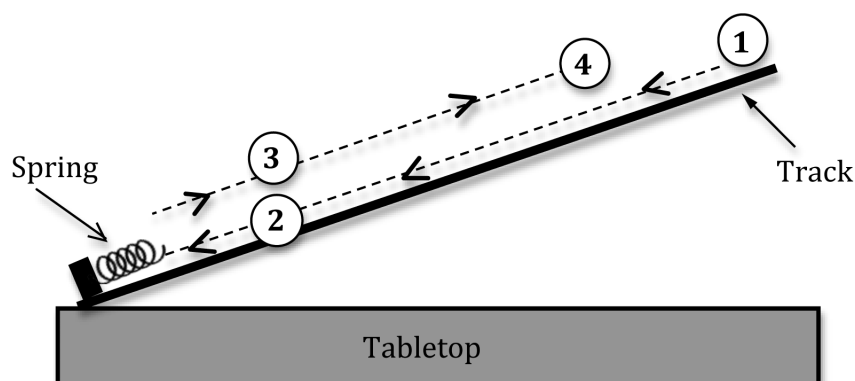

Figure 3: Diagram of the path of the cart
Figure 3 is a diagram of the trip taken by the cart. The cart is released from location ①, travels down the ramp and first passes through the photogate at location ② just before the collision. This is represented by the thin dashed line with arrows pointing down the track. The cart then bounces off the spring and passes back through the photogate at location ③ just after the collision. This is represented by the thin dashed line with arrows pointing up the track. Note that locations ② and ③ are actually the same positions on the track. Finally, the cart returns to location ④, which is lower on the track than the initial starting location ①. The two dashed lines are displaced from each other for clarity.